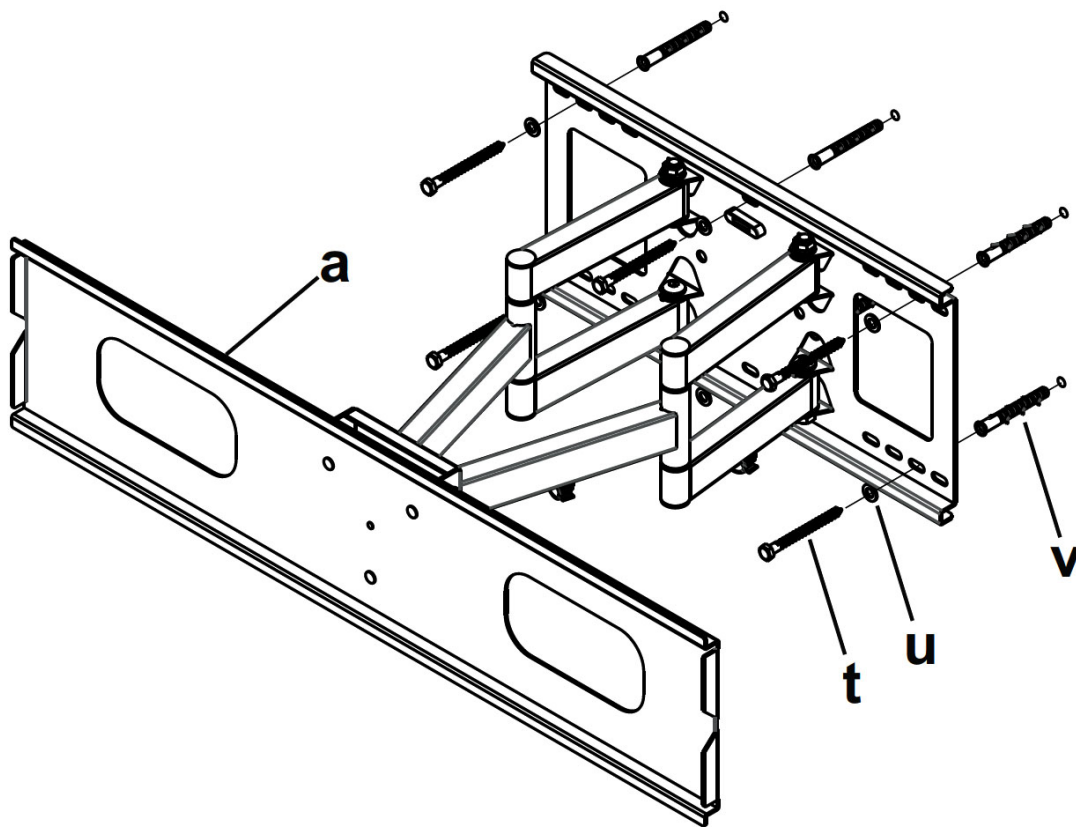

Figure 3
2. Mark six holes, minimum of 6 inches apart, to be used for securing the mount, and place the wall plate aside. Locate the holes directly into the concrete or brick, never into the mortar between the blocks. See Figure 3.
7. Insert lag bolts (t) and washers (u) into the concrete anchors as shown and tighten. Do not fully tighten until all bolts are in place. See Figure 3.